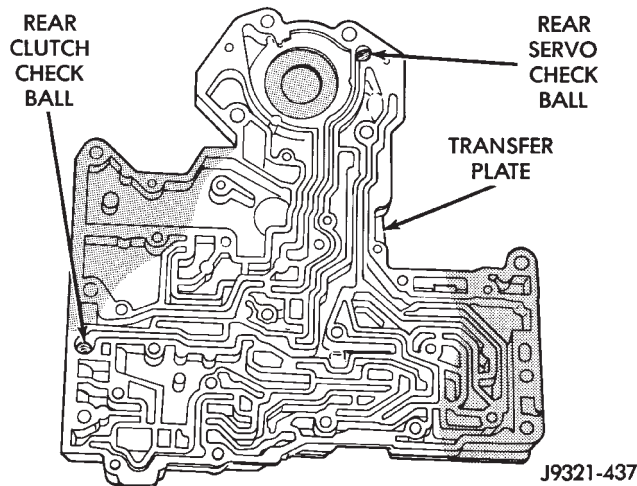

Fig. 74 Rear Clutch And Rear Servo Check Ball Locations
- (1) Install rear clutch and rear servo check balls in transfer plate (Fig. 74).